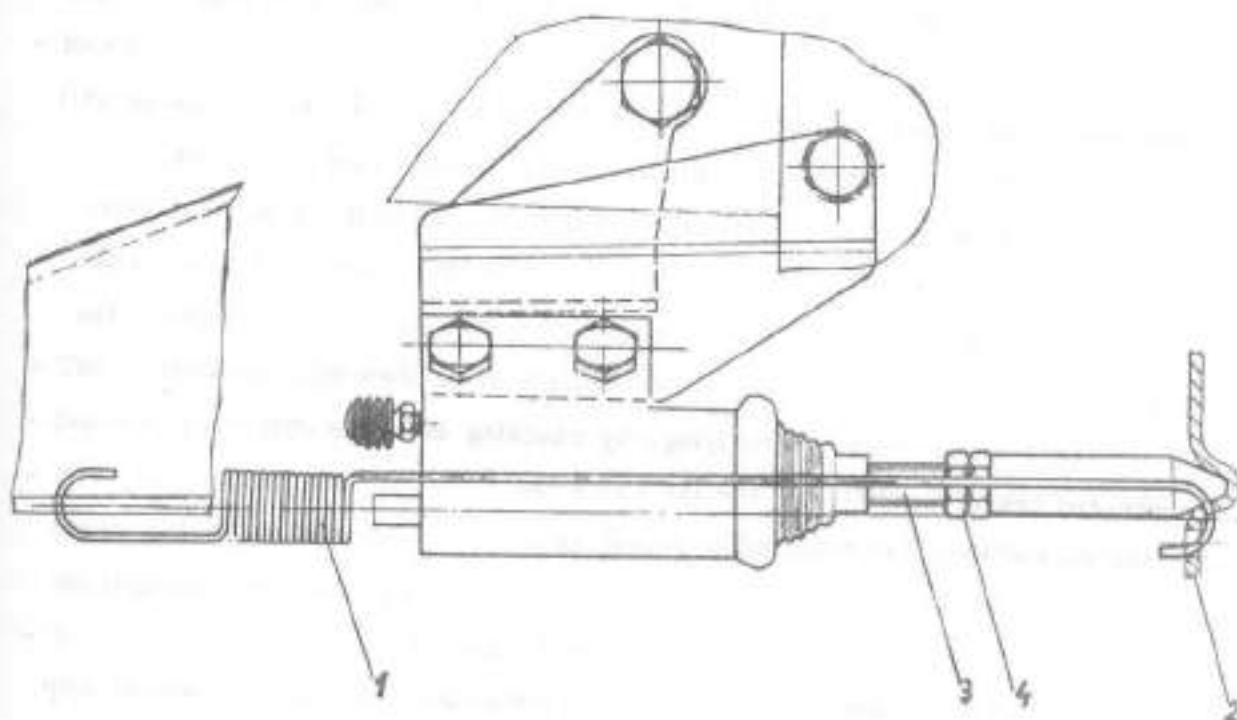

Fig. 2.37. CLUTCH CONTROL MECHANISM
- Having access from the car bottom side, performe bleeding hydraulic clutch control system (see fig. 2.37), in the same manner as on changing fluid in the brake control system, according to Op. 2.0.35.04.1.
ARO L-25 ENGINE (see fig.2.37)